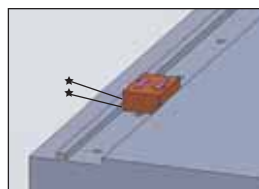

Fig 1.11.6 Checking the Mounting Surface.
(A) Prior to assembly, always remove all burrs, dents, dust, and the like from the mounting surface of the machine on which the Linear Guide is to be installed. (Fig 1.11.6)